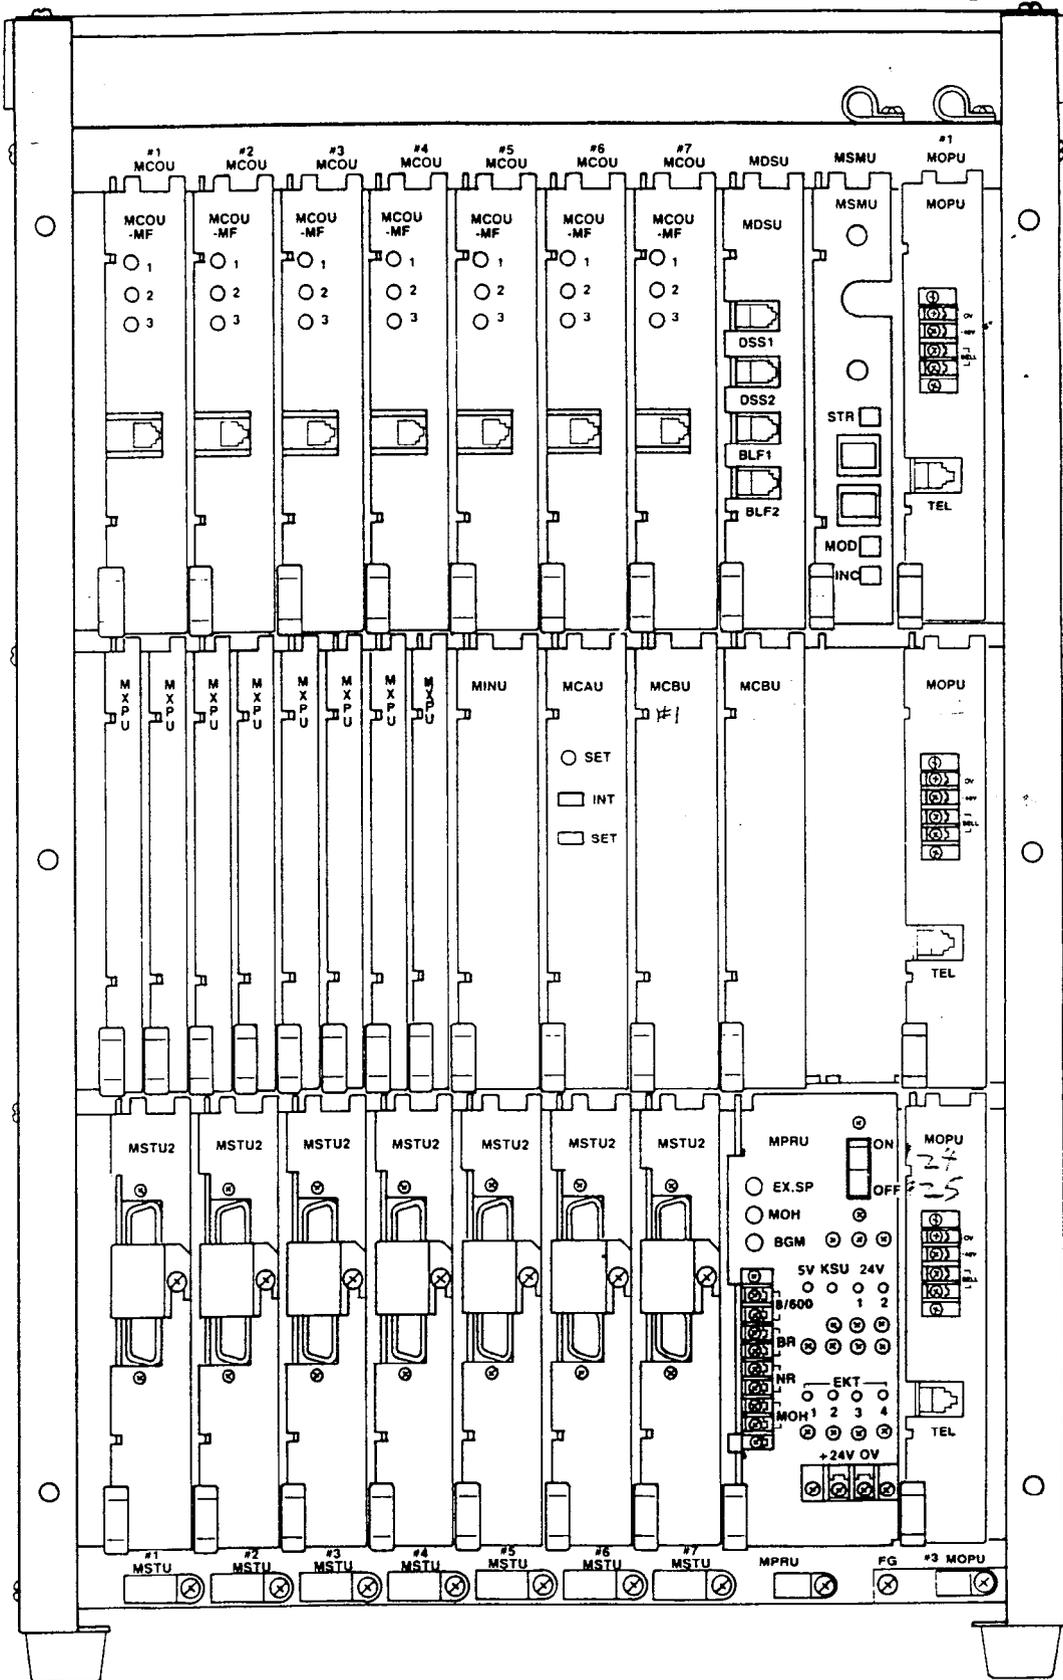

FIGURE 4—STRATA XX MKSU (Interior)
02.03 The STRATA XX MKSU (Figure 4) contains three shelves with spaces to accommodate up to 32 PCBs.